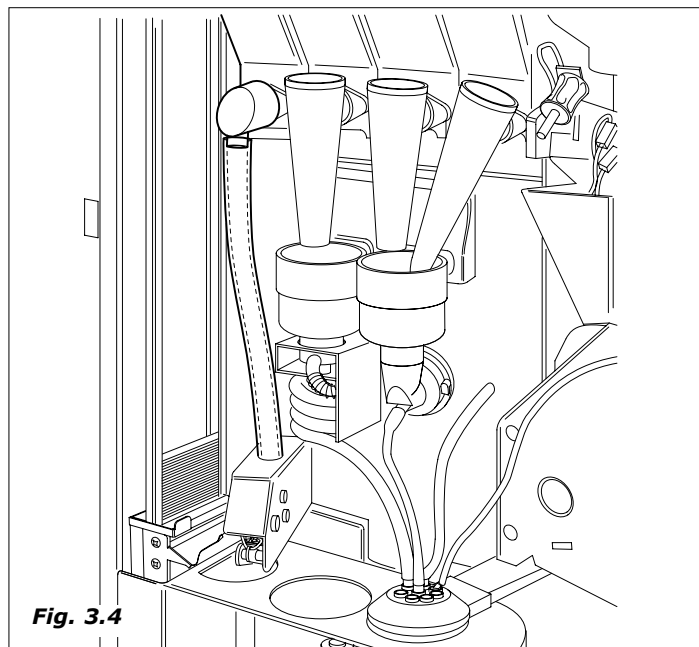

Fig. 3.4
1. the geared motor activates the helicoidal screw conveyor of the sugar product container, dispensing the desired quantity into the product chutes (*Fig.3.4*).